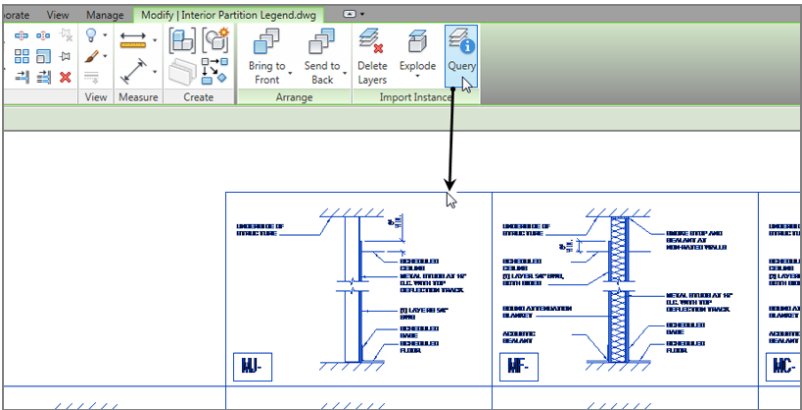

FIGURE 11.54: Clicking the Query button in the Import Instance panel
3. On the Modify | Interior Partition Legend.dwg tab, in the Import Instance panel, click the Query button, as shown in Figure 11.54.
4. Select the line shown in Figure 11.54.